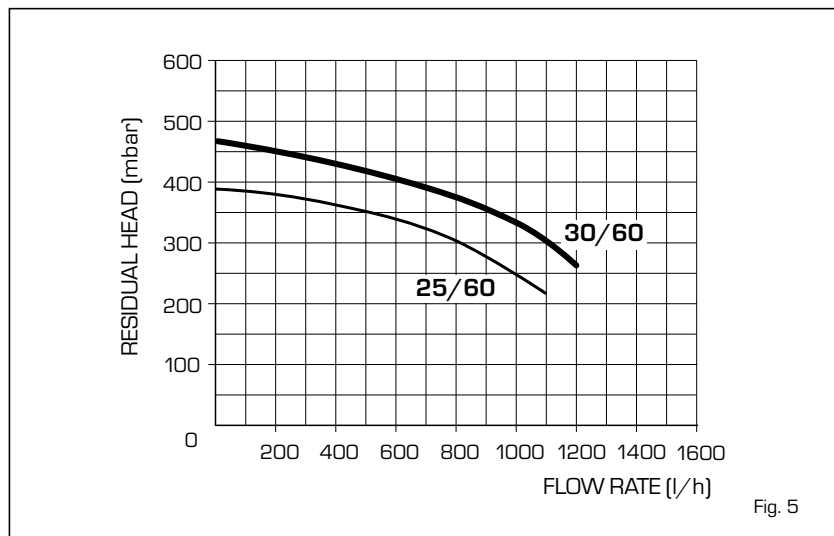

Fig. 5
- The available pump head is given in fig. 5.
The available head shown in fig. 5 is that in excess of the appliance hydraulic resistance, i.e. that available for the system at any given heating load up to the maximum output in C.H. mode. Never reduce the pump speed below maximum as this will reduce D.H.W. output. The pump speed is indicated on the side of the pump speed selector switch (if fitted).